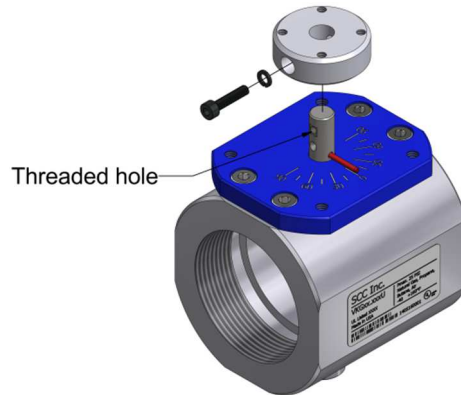

Figure 2: Shaft Adapter Installation
1. Slide the shaft adapter over the VKG... valve shaft and line up the hole in the shaft adapter with the threaded hole in the valve shaft. Using a 3mm hex key, the M4 split lock washer, and the M4 x 18mm socket cap screw, fasten the shaft adapter to the valve shaft as shown in Figure 2 below.